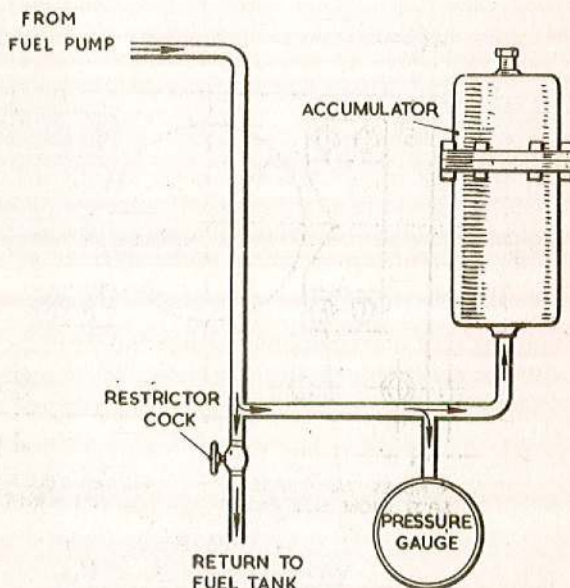

Fig. 3. Diagrammatic layout of test rig
41. Connect the unit either to the test rig (fig. 3) or to a hand pump, and steadily increase the inlet delivery pressure until a pressure of 1,500 lb. per sq. in. is reached. This pressure is to be maintained for a minimum period of two minutes without any signs of leakage. Drop the inlet pressure quickly and ascertain that there is no leakage around the joint flanges of both top cover and main body. In the event of leakage, renew the sealing ring between these joint flanges and retest.